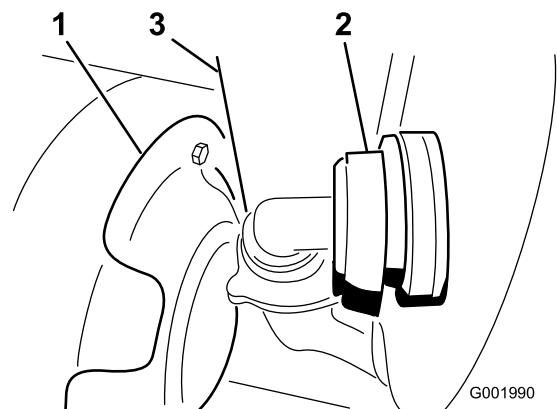

Figure 55
3. Disconnect the hose located on the lower-front face of the tank (Figure 55).
Note: You may need to push the heat shield (Figure 55) back as you remove the cover.
7. Connect the hose on the front of the tank (Figure 55).